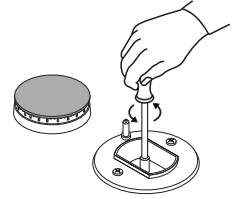

fig.8
- Unscrew the nozzles "A" (Fig.8) using a 7 mm socket wrench and replace them with the ones which have a diameter suitable for the type of gas to be used, according to the table 1 "burners and nozzles specifications).